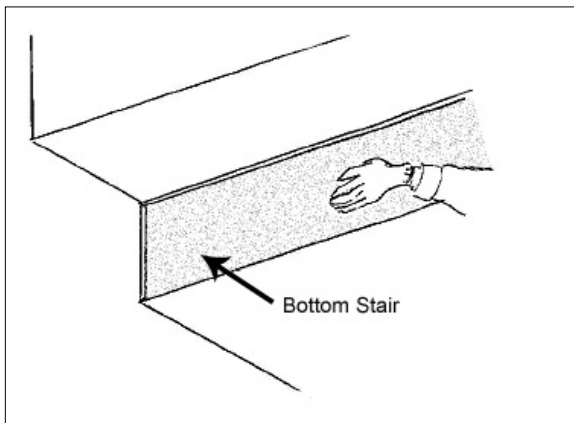

Fig 5
- ◆ Place-and-press the sheet cut in accordance with 5.1. to adhere to the riser of the bottom stair. Make sure the top edge of the sheet does not protrude above the edge. See Fig 5.
- ◆ Place-and-press the sheet cut out in accordance with page 3 to adhere to the riser of the bottom stair. Make sure the top edge of the riser does not protrude above the edge. See Fig 5.